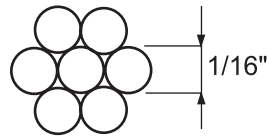

Figure 2—A stranded conductor
Not all wires are single conductors; some are made up of many conductors (Figure 2). The most common numbers of conductors in stranded configurations are 7, 19, 37, 61, 91 and 127.
Find the total CMA of the stranded conductor in Figure 2.
Step 3: The conductor in Figure 2 has seven strands.